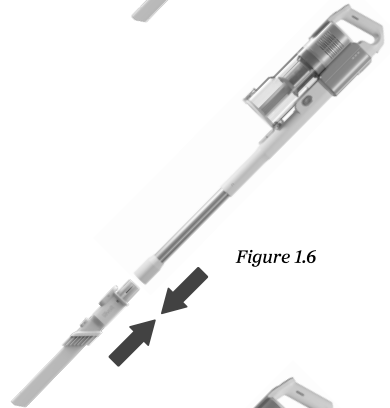

Figure 1.6
3. Optionally, leave the stick attached to the vacuum body and press the Vacuum Head Release Button to remove the vacuum head. Then, attach the nozzle attachment to the end of the stick. [Figure 1.6]